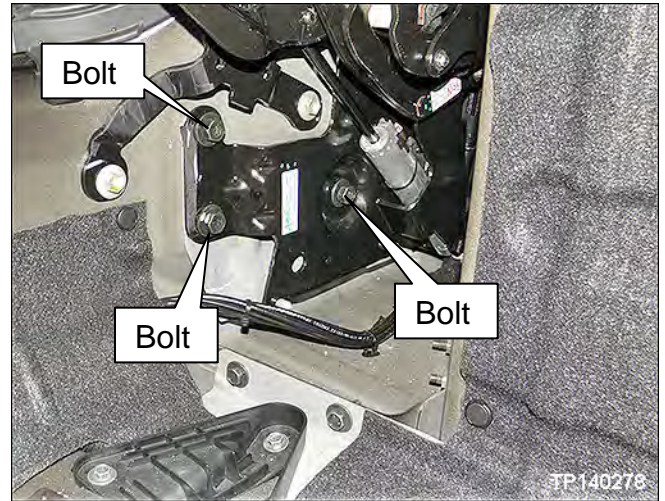

Figure 37
22. Loosen – do not remove – the bolts shown in Figure 37.